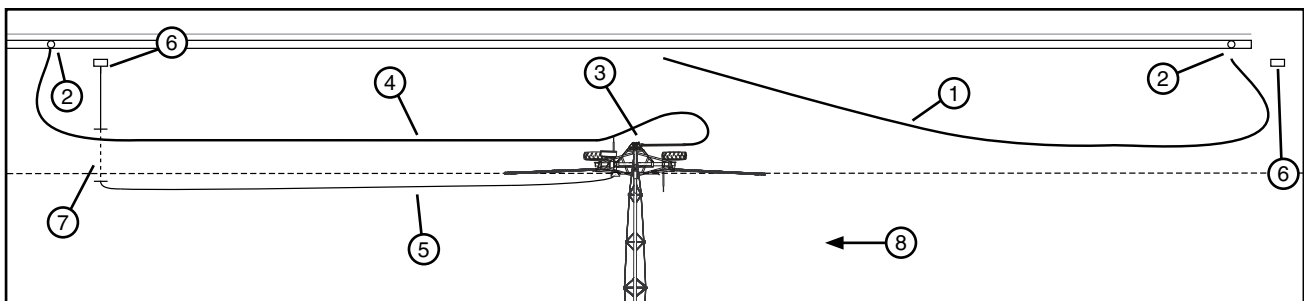

Figure 46-2 1. First Hose 4. Second Hose 7. Buried Power Cable Location
19. With second hose connected to shut off valve, position second hose, unlatch and disconnect first hose from swivel inlet. Positioning the hose to drain away from the cart path. See figure 46-2.
- c) Position the electric cord as shown. When applicable, prevent interference between the electric cord and the hose by burying the electric cord in the ground as shown. Allowing for the hose to travel over the buried portion of the cord. See figure 46-2.